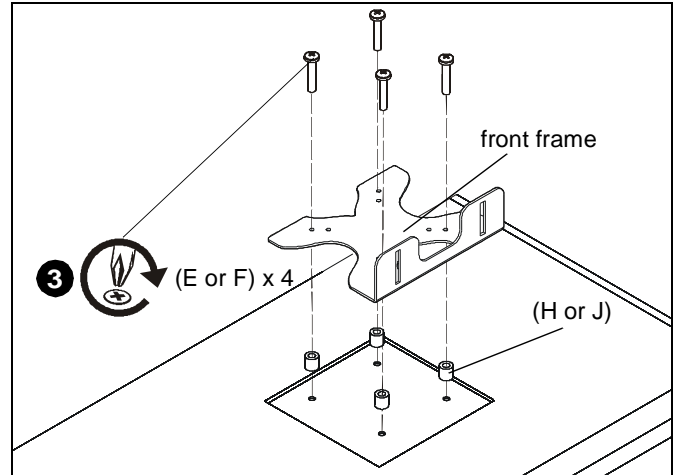

Figure 3
- Place four spacers (H or J) on top of mounting holes on back of display. (See Figure 3)
- Using Phillips screwdriver, carefully install four M4x30mm (E) or M4x20mm (F) Phillips screws through corresponding holes on front frame, spacers (H or J) and into the mounting holes on the display. (See Figure 3)